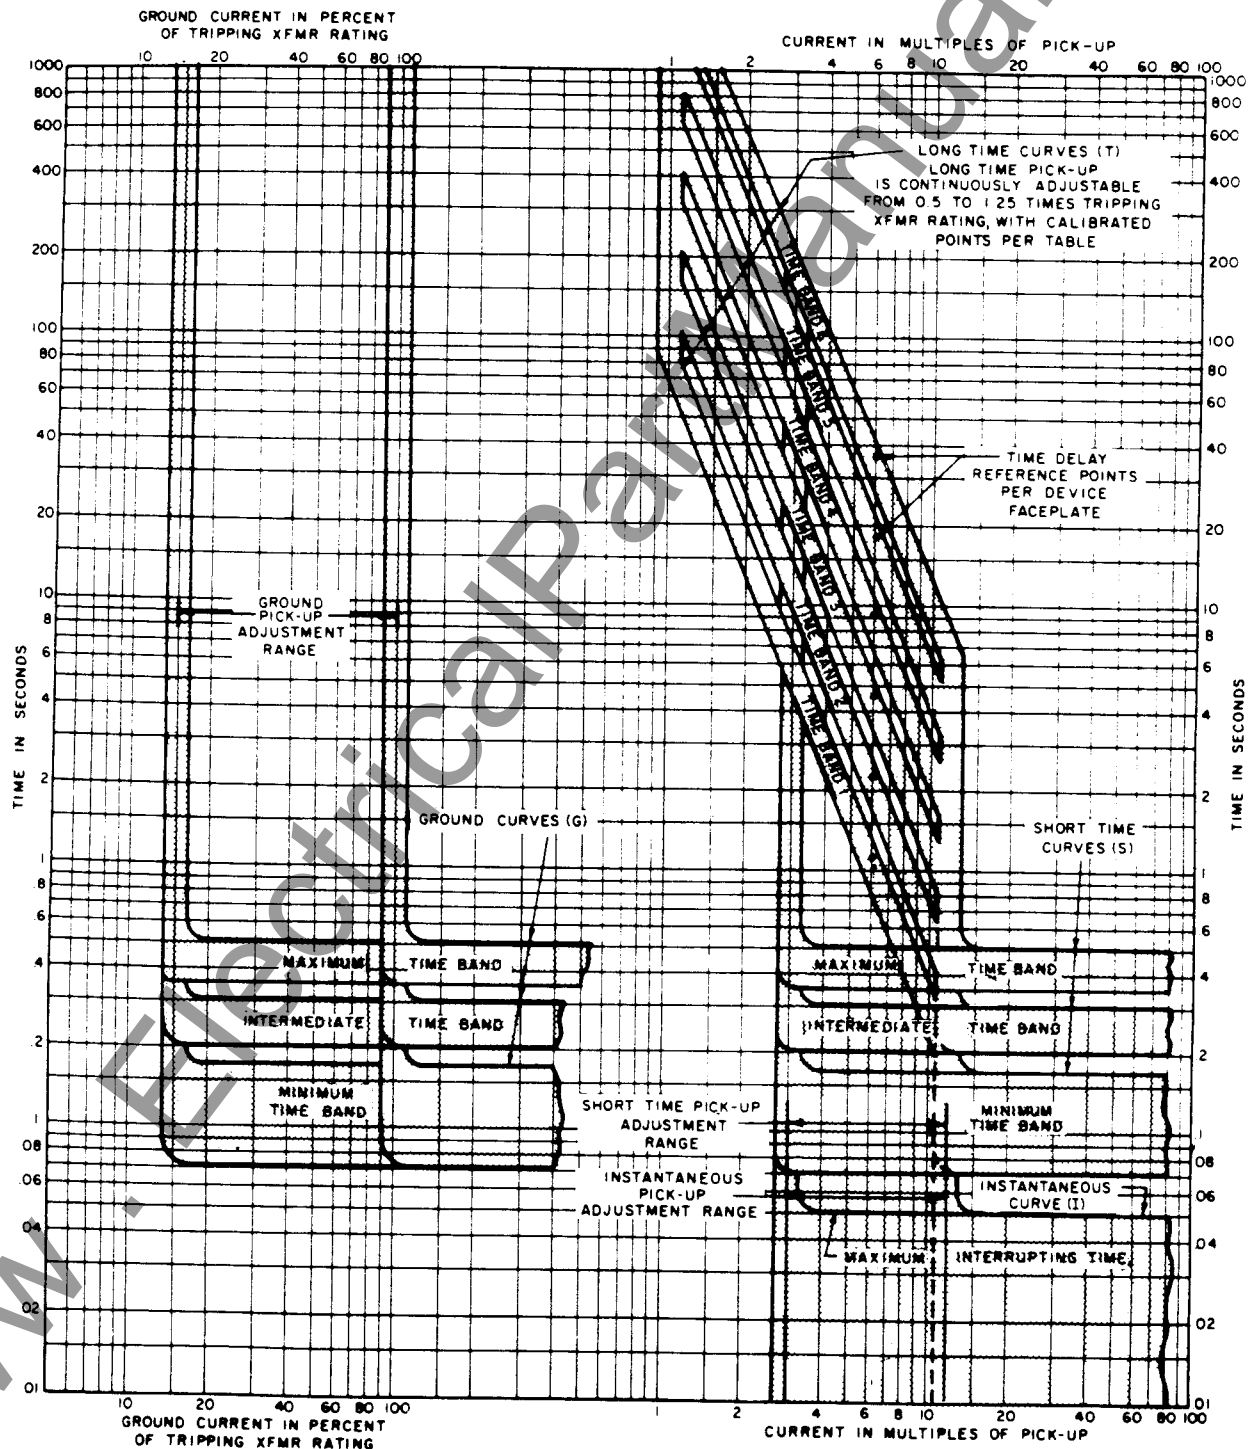

Figure 5. Time-Current Curves — Static Trip II™
6. When the trip device operates, check the reading of the stop clock against the curves in Figure 5. The reading should be approximately the same as shown on the faceplate of the device, but must be within the limits shown on the curves. If not, recheck all settings and repeat the test.
8. Repeat for the other phases (by changing green plug to terminal 2 for phase 2, and terminal 3 for phase 3) time delay bands and other values of current, as desired. All test points should fall within the bands of Figure 5. Each time band should have precisely twice the delay of the next lower band when all other conditions are the same.
5. Press the START button, the delay should be .35 to .50 seconds. See Figure 5.
6. Repeat for "Short Time Band" settings of "Intermediate" and "Minimum", compare to Figure 5. The other phase circuits and different values of current can be tested if desired. Make current settings as quickly as possible to avoid overheating.